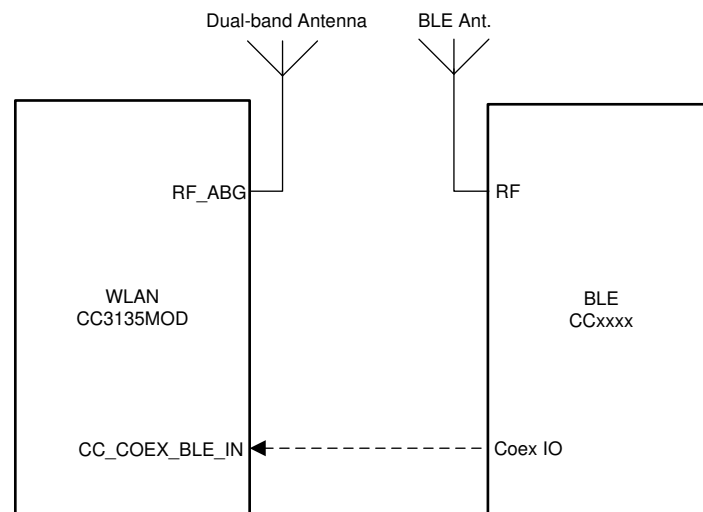

图 9-1. Dual-Antenna Coexistence Mode Block Diagram
- Dual-band Wi-Fi (see 图 9-1)
图 9-1 shows the dual antenna implementation of a complete Bluetooth® low energy and WLAN coexistence network with the WLAN operating on either a 2.4GHz or a 5GHz band. Note in this implementation no Coex switch is required and only a single GPIO from the BLE device to the CC3135 device is required.